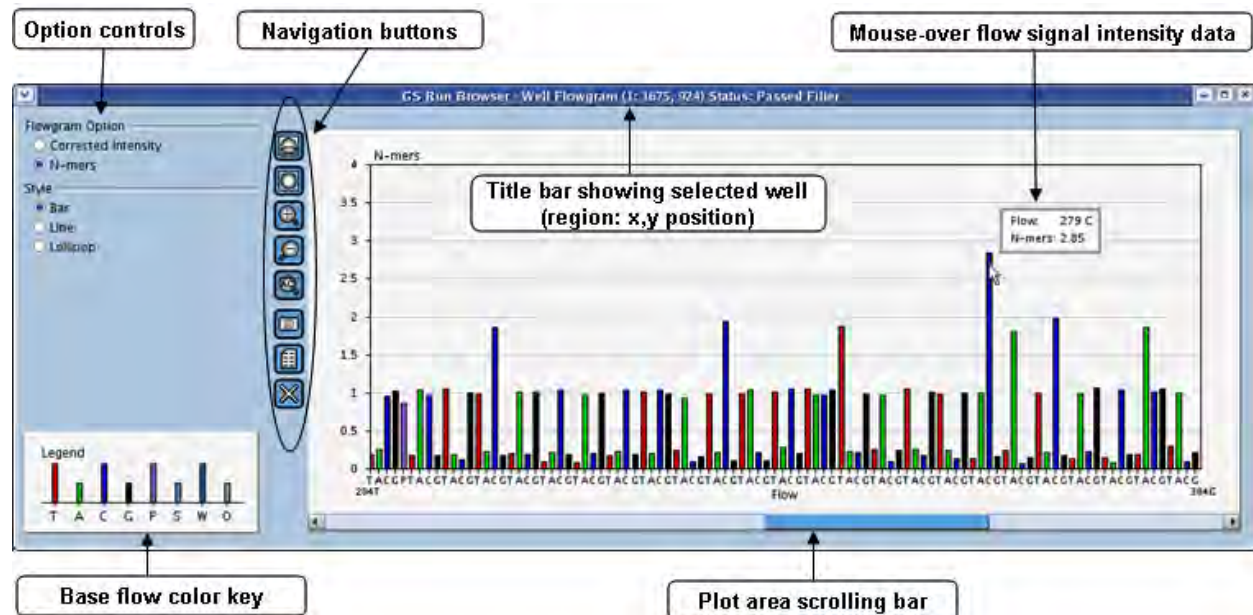

Figure 15: An example Well Flowgram window showing many of the common graphical element functions.
The images, plots and data tables displayed in the various tabs of the GS Run Browser application are scrollable and/or zoomable graphical elements. They share certain common buttons and functions, *e.g.* to perform the scrolling and zooming. When they do appear, these graphic elements have some or all of the following features (see in Figure 15, an example of a well flowgram window, which has most of these elements):
- **Mouse Tracker** – Whenever the cursor is located on data shown in an image or plot, the numeric data values for that data is shown in a related Mouse Tracker window that pops up near the location of the cursor. This allows the user to see the specific numeric value for any data point (see example in Figure 15).